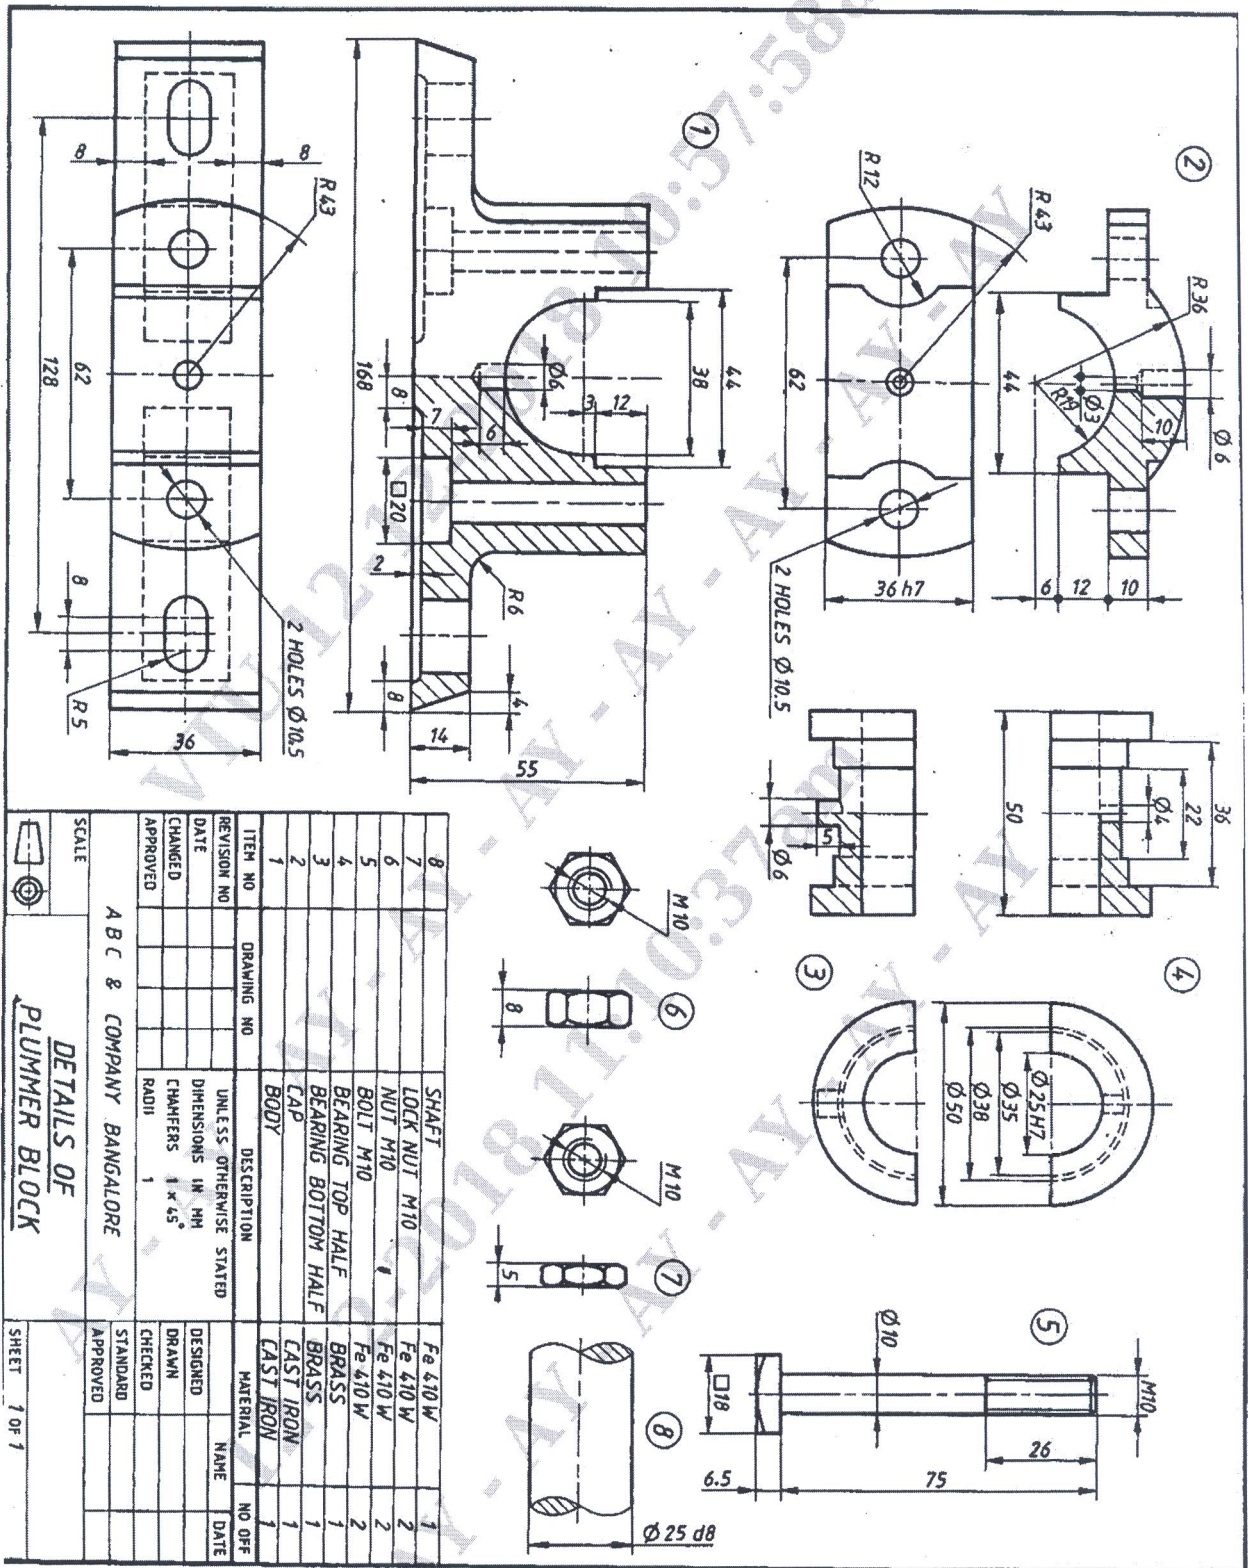

Figure 2 : Drawing of A "Plummer Block"
- Q.No.6** Figure 2 shows the part drawing of a "PLUMMER BLOCK". Assemble parts and show the following views.